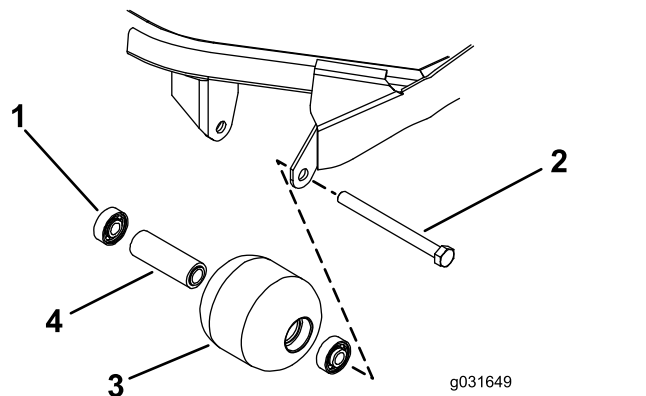

Figure 70
1. Remove the roller-mounting bolt (Figure 70).
4. Inspect the roller housing, bearings, and bearing spacer for damage (Figure 70).
1. Pressing on the outer race only or equally on the inner and outer race, press the first bearing into the roller housing (Figure 70).
2. Insert the spacer (Figure 70).
3. Pressing on outer race only or equally on the inner and outer race, press the second bearing into the roller housing until it contacts the spacer (Figure 70).